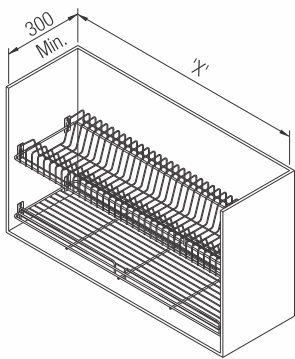

Fig. 1
1. Choose a suitable cabinet according to the specification of particular products (Fig.1).